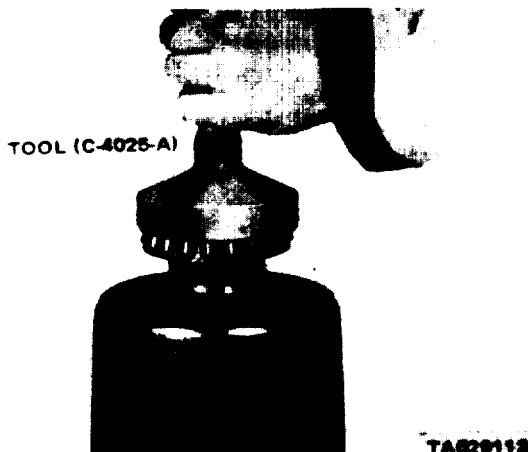

Figure 19-11. Installing Differential Bearing Cones.
(2) Insert new drive gear screws through the case flange and into the drive gear. After all capscrews are properly started, tap the drive gear against the differential case flange with a non-metallic mallet.
(3) Clamp the unit between the brass jaws of a vise and alternately tighten each capscrew to 110-115 ft-lbs.
(4) Position each differential bearing cone on the hub of the differential case (without shims), with the small end away from the drive gear, using tool C-4025-A (figure 19-11). An arbor press may be used in conjunction with the installing tool.